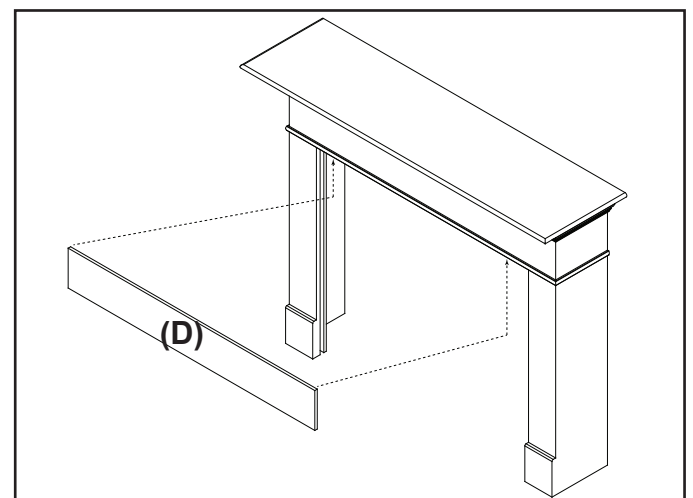
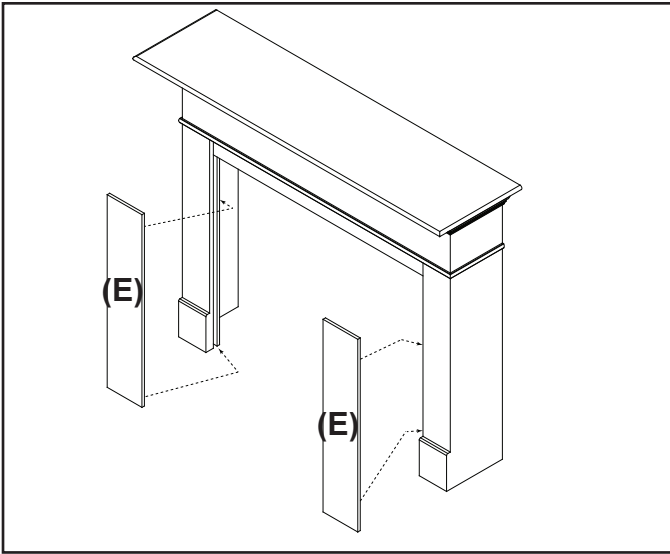

Figure 5
Figure 6
3. Place mantel in front of appliance spaced approximately 6 in. from the wall. Insert top trim board (D) into the slot located on the backside of the mantel top assembly. See Figure 5. Insert side trim boards (E) into the slot located on the back side of the mantel leg. See Figure 6.